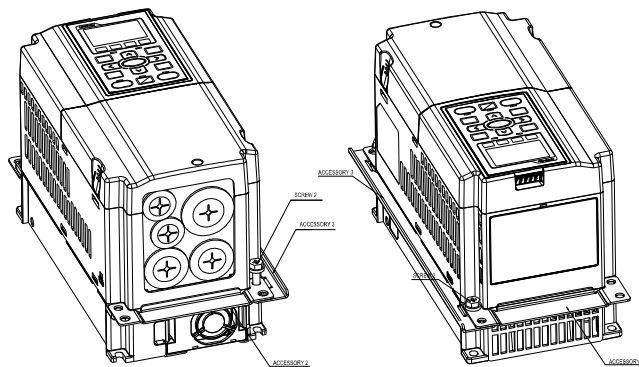

Figure 2
2. Install accessory 2&3 by fastening 2 of the screw 2 (M6) (figure 2). Screw torque: 25~30kg-cm (21.7~26lb-in).